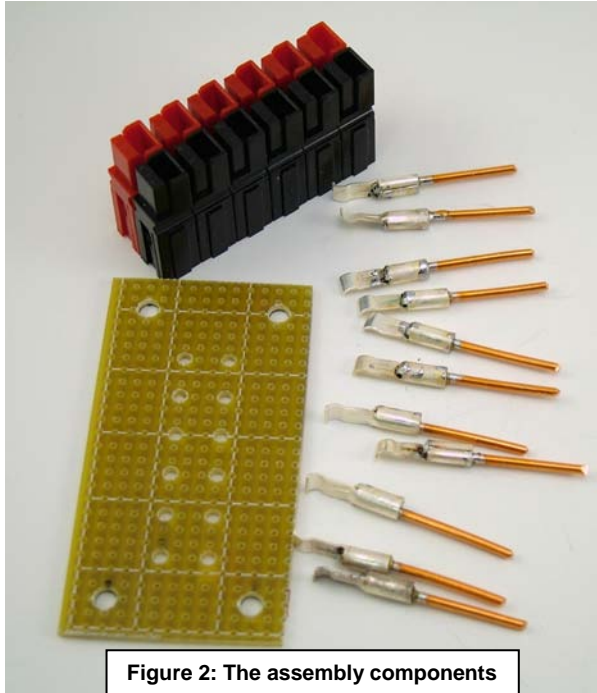

Figure 2: The assembly components
I found that the if you assemble the Powerpole block as shown, the pcb connection foot print needed is basically 0.3" x 0.3", as you can see in figures 2 and 3.
- 1.) Assemble the Powerpole shells into a rectangular block as shown in Figures 2 and 3, paying attention to polarity. The accepted convention is (viewing from the front or contact side) tongue down, hood up, Red on LEFT, BLACK on the right. (Red positive, Black negative)